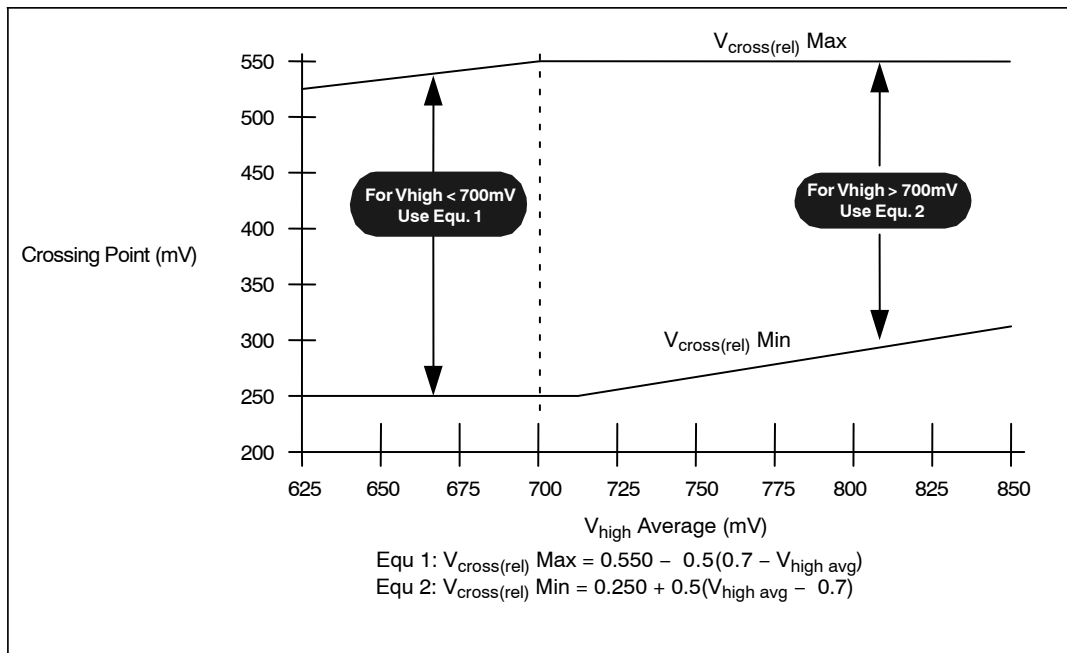

Figure 16.  $V_{\text{cross}}$  Range Clarification (Note 40)
16. Vcross(rel) Min and Max are derived using the following,  $V_{\text{cross}(\text{rel})}\text{ Min} = 0.250 + 0.5 (V_{\text{high avg}} - 0.700)$ .  $V_{\text{cross}(\text{rel})}\text{ Max} = 0.550 - 0.5 (0.700 - V_{\text{high avg}})$ . (see Figure 16 for further clarification).